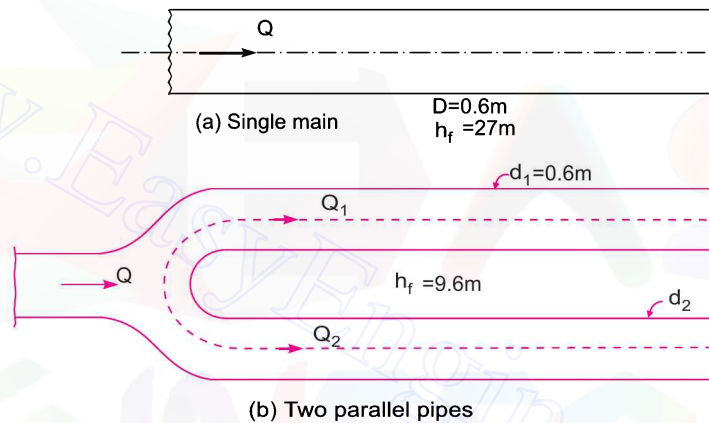

Fig. 11.19
For a single main [Fig. 11.19 (a)]
**2nd Case.** Two pipes are in parallel [Fig. 11.19 (b)]